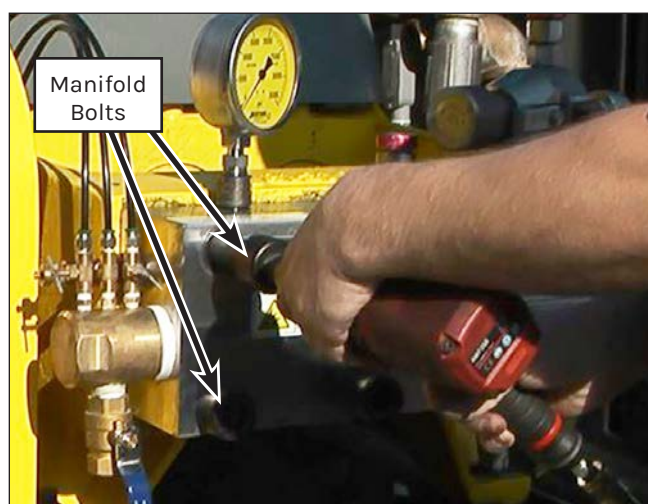

Figure 62: Manifold Bolt Removal.
7. Remove the top manifold bolts (Figure 62) at each corner.